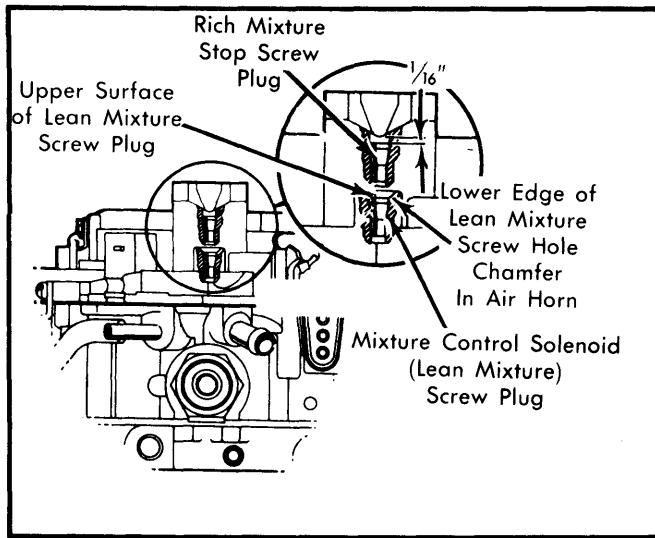

Fig. 15 Installing Lean and Rich Mixture Stop Screws in Air Horn
11) After solenoid travel is correctly set, install new plugs supplied in service kit. Install mixture solenoid screw plug (hollow end down) into hole in raised boss of air horn casting. Using a small punch, drive plug into air horn until upper surface of plug is even with lower edge of hole chamfer. See Fig. 15.